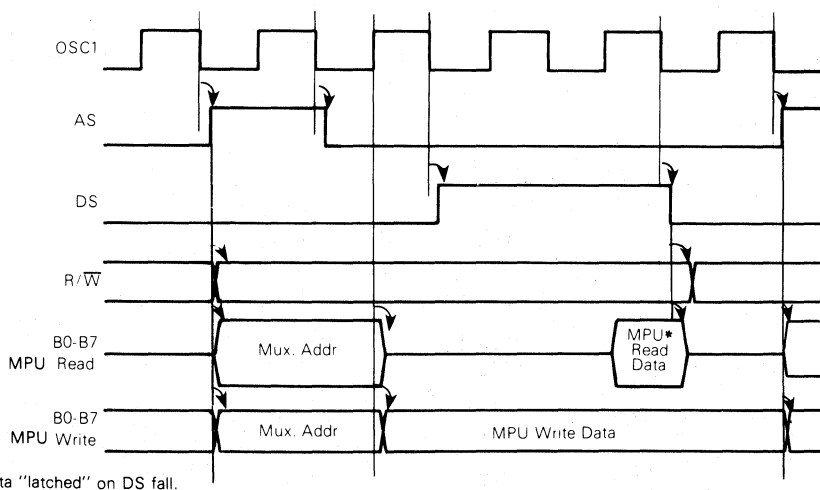

Fig. 9 — OSC1 to bus transitions timing waveforms.
**OSC1, OSC2** — The CDP6805E2 provides for two types of oscillator inputs — crystal circuit or external clock. The two oscillator pins are used to interface to a crystal circuit, as shown in Figure 5. If an external clock is used, it must be connected to OSC1. The input at these pins is divided by five to form the cycle rate seen on the AS and DS pins. The frequency range is specified by fOSC. The OSC1 to bus transitions relationships are provided in Figure 9 for system designs using oscillators slower than 5 MHz.